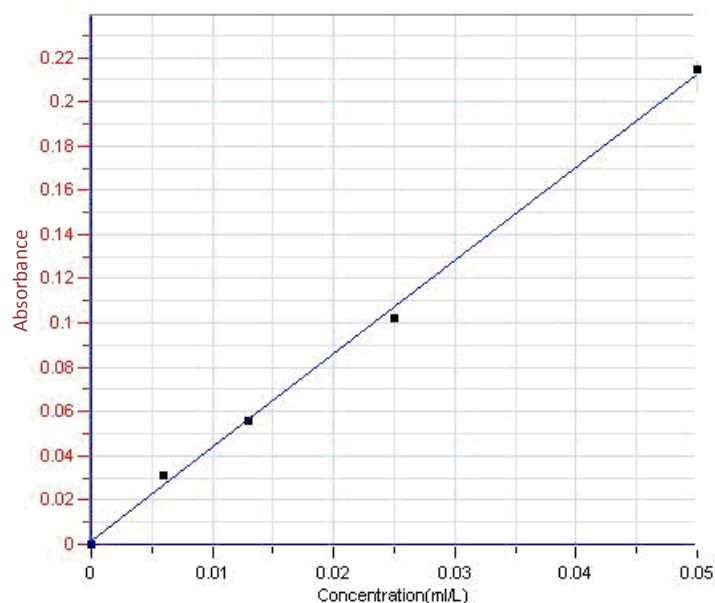

Figure 3
5. Create a graph of **Absorption** vs. **Concentration** in your spreadsheet or graphing program. A sample graph is shown in Figure 3 below.